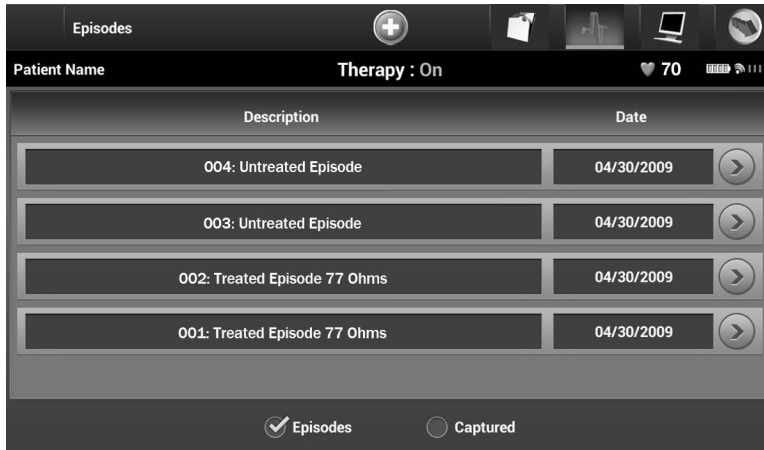

Figure 37: *Episodes screen (scrollable list)*
- Note:** Choosing the “View” button in the Treated Episodes row allows navigation directly to the list of stored episodes (Figure 37).
5. Select an episode (treated or untreated) from the list (Figure 37). The selected episode will be downloaded from the pulse generator and displayed.
Note: *In order to be available for printing, episodes must first be individually selected and viewed from the Episodes Screen (Figure 37).*
Note: *In order to be available for printing, episodes must have been individually selected and viewed from the Episodes Screen (Figure 37).*